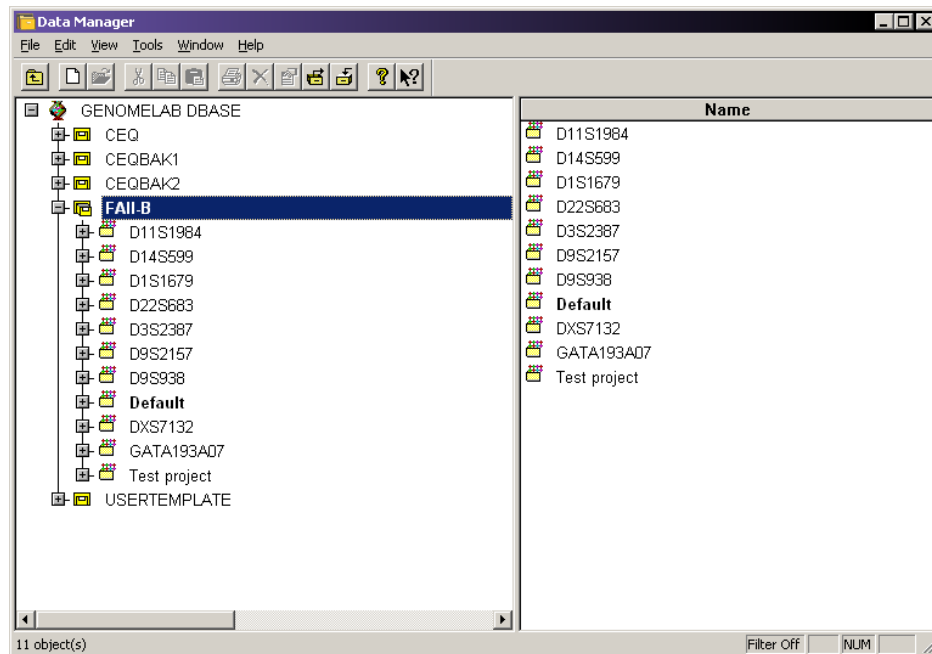

Figure 8.5 Select Database to Back Up
3. Select the database to be backed up. An example is shown in Figure 8.5.